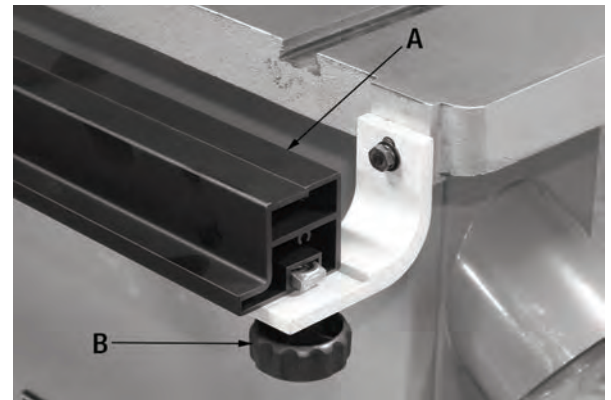

FIGURE 6
2. Mount lock knobs (B) and flat square nuts (C) to the mounting brackets as shown.
3. Slide the square slot at the bottom of the front rail (A) Fig.6 onto both flat square nuts, tighten lock knobs (B) to secure the front rail in the desired position.